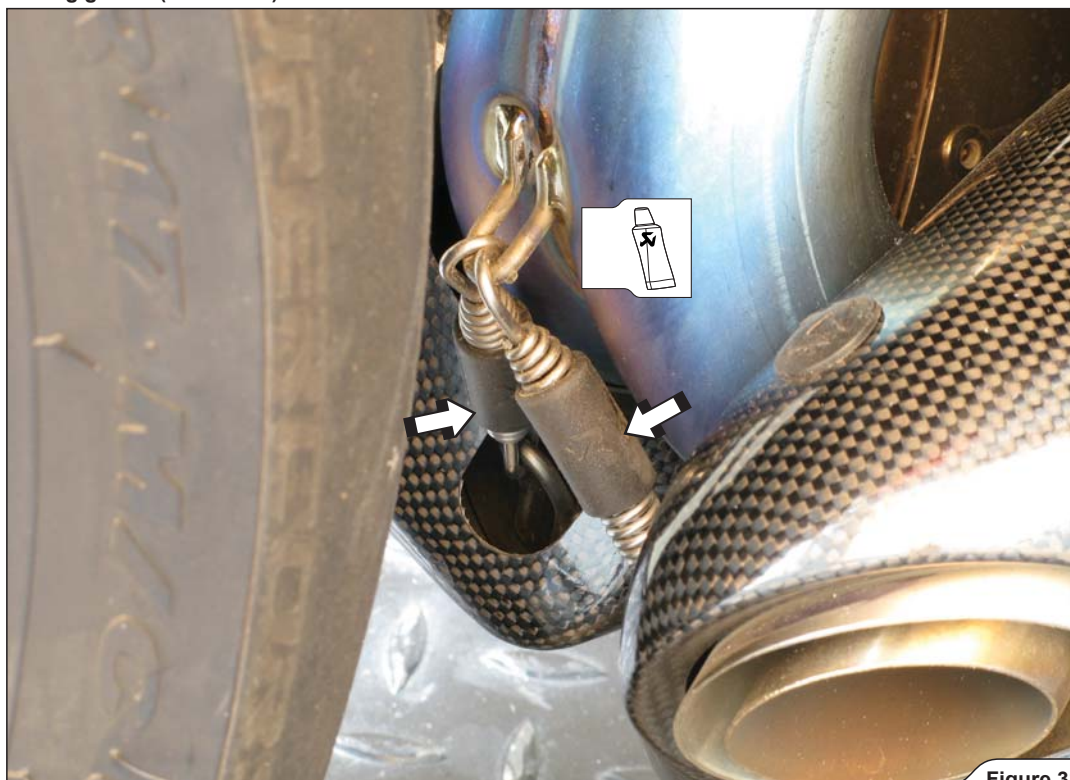

Figure 38
12. Slide the mufflers onto the outlets of the collector, hand tighten the mufflers' bracket bolts and attach the springs (**Figure 38, 39**).